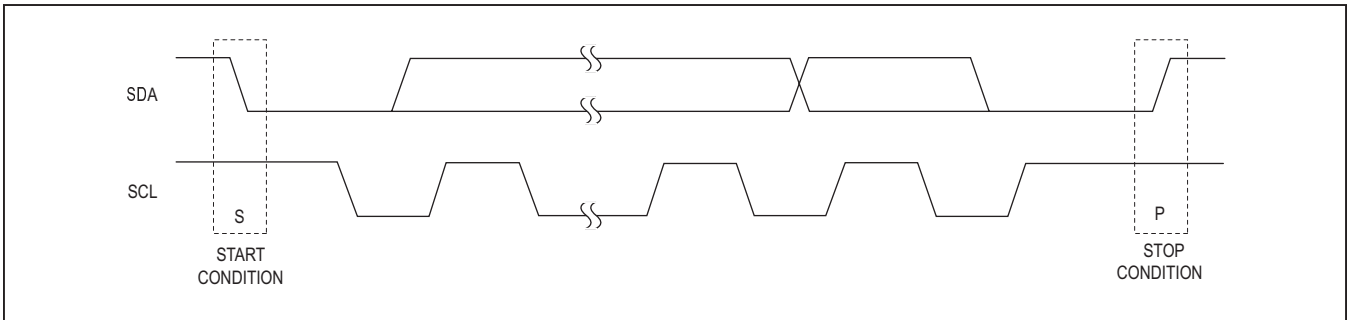

Figure 4. START and STOP Conditions
The IC operates as a slave device that sends and receives data through an I²C-compatible 2-wire interface. The interface uses a serial-data line (SDA) and a serial-clock line (SCL) to achieve bidirectional communication between master(s) and slave(s). A master (typically a microcontroller) initiates all data transfers to and from the IC and generates the SCL clock that synchronizes the data transfer. The SDA line operates as both an input and an open-drain output. A pullup resistor is required on SDA. The SCL line operates only as an input. A pullup resistor is required on SCL if there are multiple masters on the 2-wire interface, or if the master in a single-master system has an open-drain SCL output. Each transmission consists of a START (S) condition (Figure 4) sent by a master, followed by the MAX14592 7-bit slave address plus R/\overline{W} bit, a register address byte, one or more data bytes, and finally a STOP (P) condition.
Both SCL and SDA remain high when the interface is not busy. A master signals the beginning of a transmission with a START condition by transitioning SDA from high to low while SCL is high (Figure 4.) When the master has finished communicating with the slave, it issues a STOP